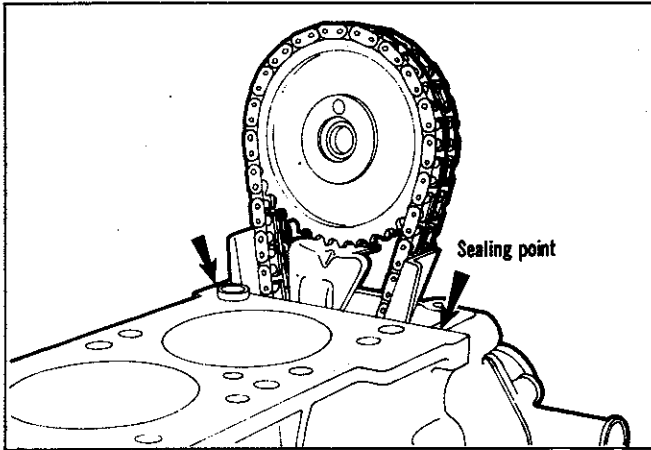
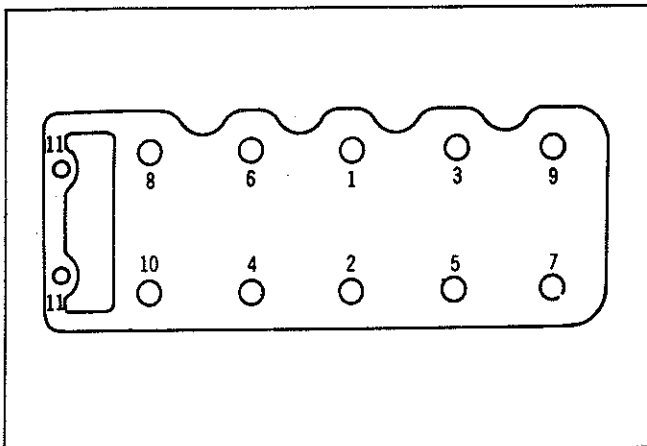

Fig. 6—Sealing points
Fig. 7—Cylinder head bolt tightening sequence
(1) Ensure that the joint surface between the top of the chain cover and cylinder block is flat.
(2) Apply sealant to the two joint surfaces as shown in Fig. 6.
(3) Fit the cylinder head gasket to the cylinder block locating it correctly on the dowel pins.
(4) Install the cylinder head locating it on the dowel pins. Do not slide the head across the dowel pins as damage to the head surface may occur. Care must also be taken to avoid dislocation of the camshaft sprocket from the timing chain.
(5) Tighten the cylinder head bolts in three stages to the specified torque and in the sequence shown in Fig. 7.